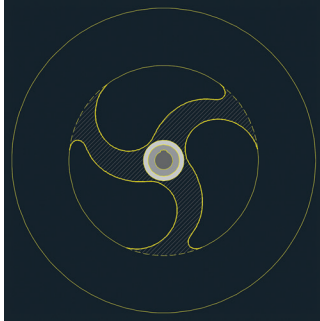

FIGURE 8.7 Hatching the rotor arms
16. Choose ANSI31 from the Pattern panel. Click the Close Hatch Creation button in the Close panel. Figure 8.7 shows the result.